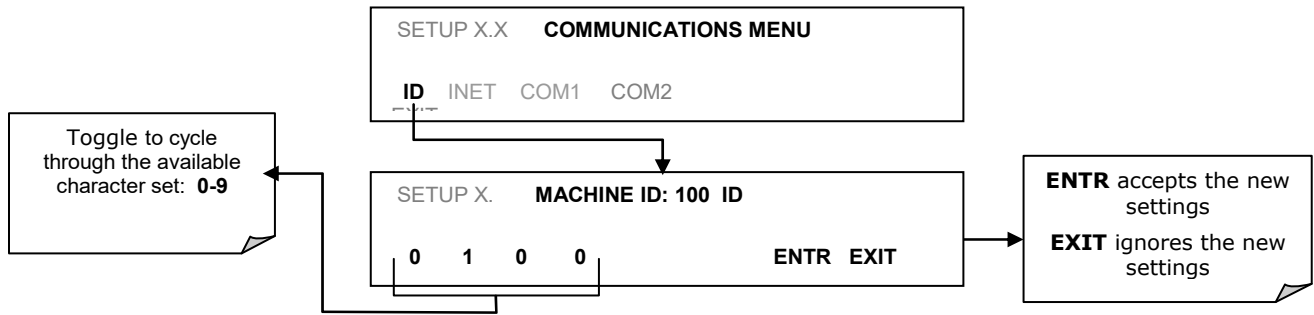

Figure 5-14: COMM – Machine ID
Press ID to display and/or change the Machine ID, which must be changed to a unique identifier (number) when more than one instrument of the same model is used in a multidrop configuration (0) or when applying MODBUS protocol (Section 6.6.1). The default ID is the same as the model number; for the Model 6400T, the ID is 0100. Press any button(s) in the MACHINE ID menu (Figure 5-14) until the Machine ID Parameter field displays the desired identifier.